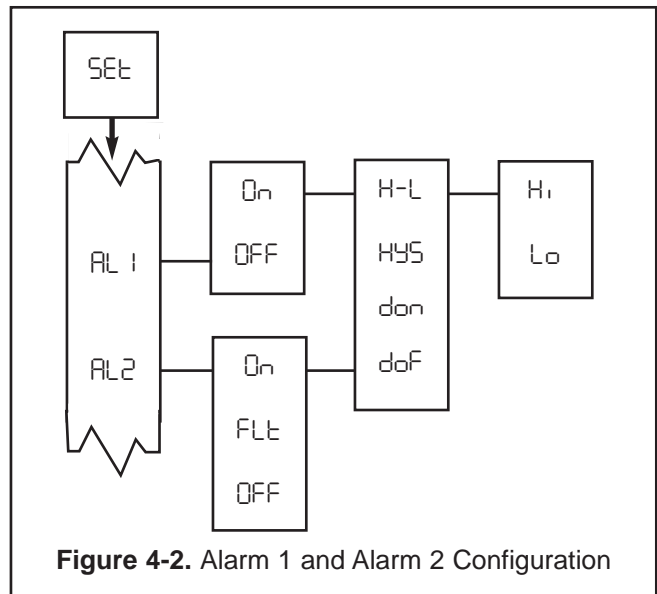

Figure 4-2. Alarm 1 and Alarm 2 Configuration
4.3.1 Alarm Configuration (AL1/AL2). Refer to Figure 4-2.